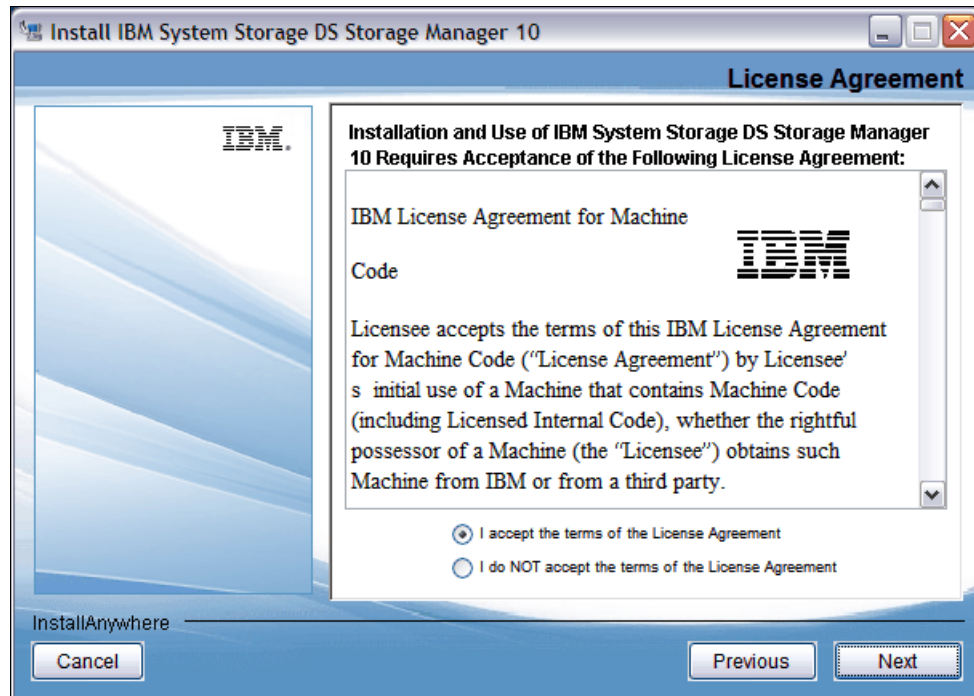

Figure 5-5 IBM DS Storage Manager License Agreement
5. Read the license agreement and click **Next** as shown in Figure 5-5 on page 135.